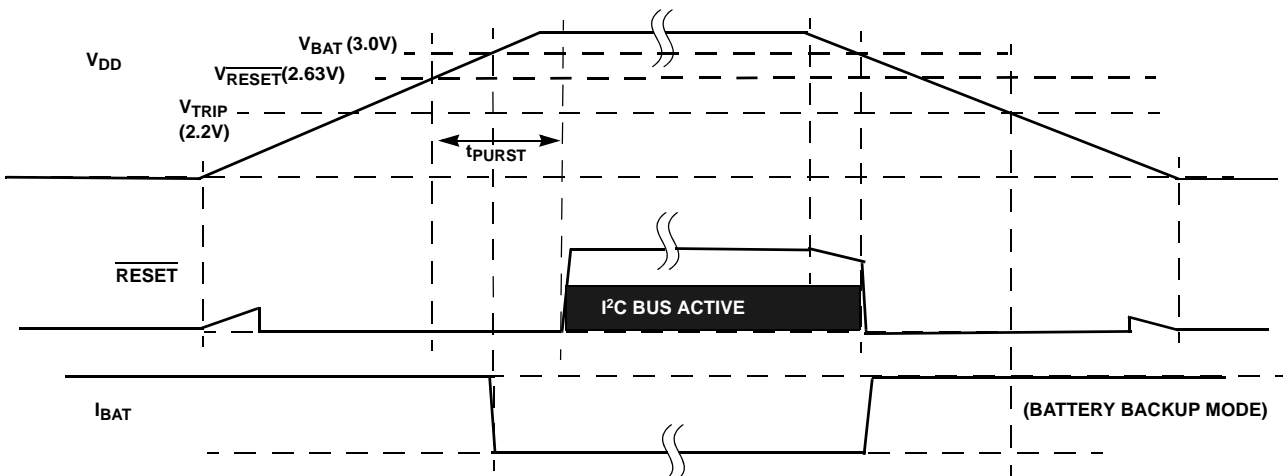

FIGURE 30. RESET OPERATION IN MODE D
- Mode D - In this mode, the selection bits indicate switchover to battery backup at VDD<VBAT, and no I2C communications in battery backup. This mode is unique in that there is I2C communication as long as VDD is higher than VRESET or VBAT, whichever is greater. This mode is the safest for guaranteeing I2C communications only when there is a Valid VDD (see Figure 30).